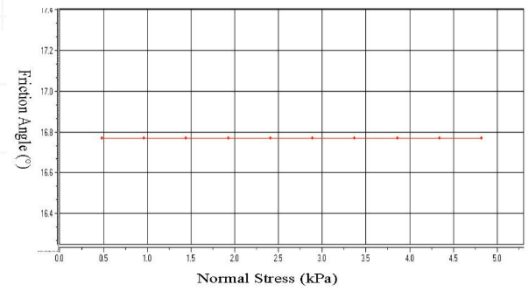

Figure 2: Baby Formula Wall Friction
- Figure 2 displays the wall friction angles at different normal stresses. With a stainless-steel lid, the wall friction angle remained consistently at 16.75° across all stress levels.